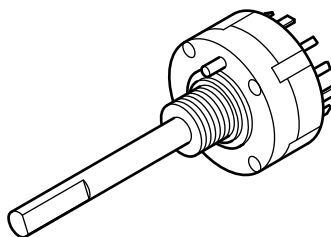

Fig. 20
- (d) The delay can be altered by using a rotary switch to connect different resistors to the circuit. Fig. 20 shows a rotary switch. Use notes and sketches to explain how a rotary switch works.